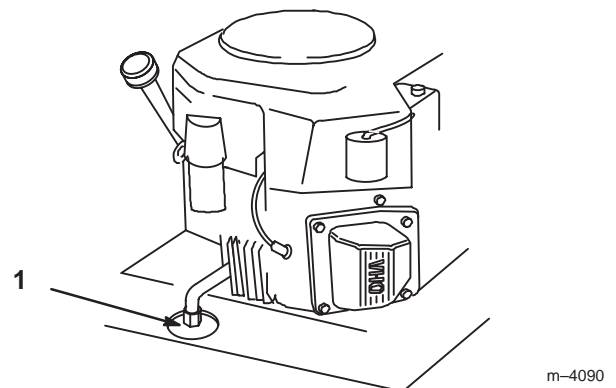

Figure 37
- Place a pan below the oil drain. Remove the oil drain cap (Fig. 37).